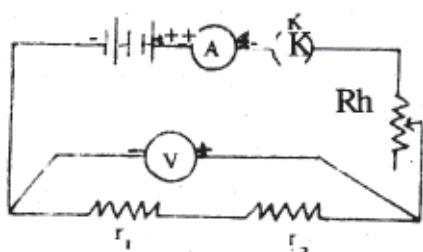

Fig.20.1: Series combination of resistances
2. Draw the electrical circuit as shown in the Fig. 20.1 in your copy and make connections according to it. Make sure that connections are neat and tight and insulation from ends of the wires is properly removed by sand paper.